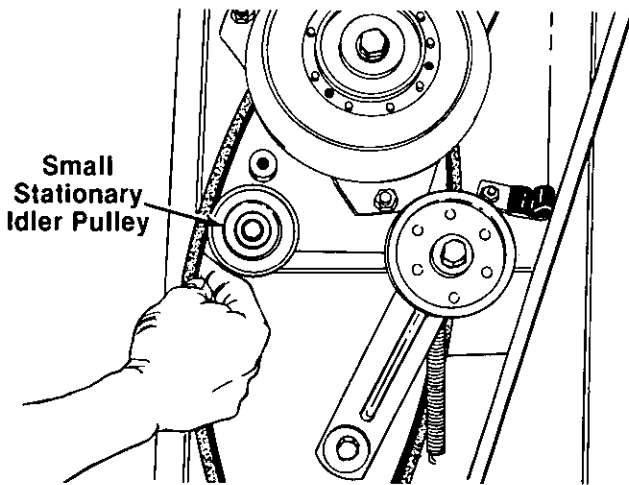

FIGURE 27.
5. Lift belt over small stationary idler pulley on right hand side of engine pulley. See figure 27.